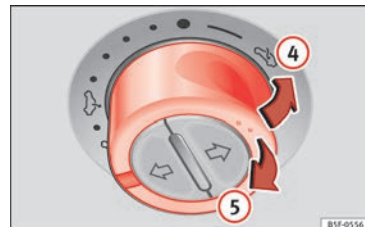

Fig. 12 On the interior roof lining: press the button and pull on it to raise and lower the sunroof.
- To tilt open: Push the switch to position » » **Fig. 12** ④. For an intermediate position, hold down the switch until you reach the desired position.
- Lowering: Pull the switch to position » » **Fig. 12** ⑤. For an intermediate position, hold down the switch until you reach the desired position.